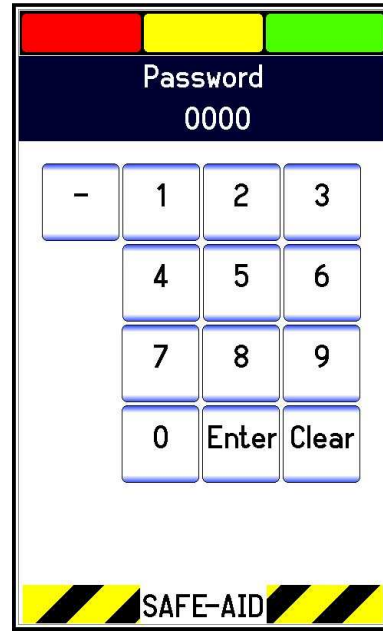

Figure 22
1. To access the wind speed menu from the operating screen press the block where the current wind speed is displayed, a **Password** screen will be displayed (figure 22).